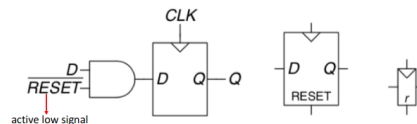

Figure 6: Resettable Flip-Flop
6. **Resettable Flip-Flop (figure 6):** When RESET is FALSE: the flip-flop behaves like an ordinary D flip-flop. When RESET is TRUE: the flip-flop ignores D and resets the output to 0. May be synchronously (reset only on the rising edge of CLK) or asynchronously (Reset as soon as RESET becomes TRUE, independent of CLK) resettable.